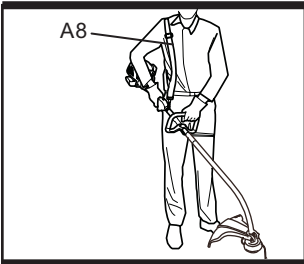

Fig. 11c
- 3). Adjust the length of the harness (A8) so that the hook is approximately 15 cm below your waist; locate the product to the harness by using the securing clip ensuring that the angle of the cutting head is approximately 30° to the surface being cut. (See Fig. 11c)